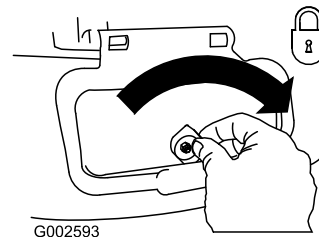

Figure 32
**Important:** Lock the side discharge door after you close it (Figure 32).